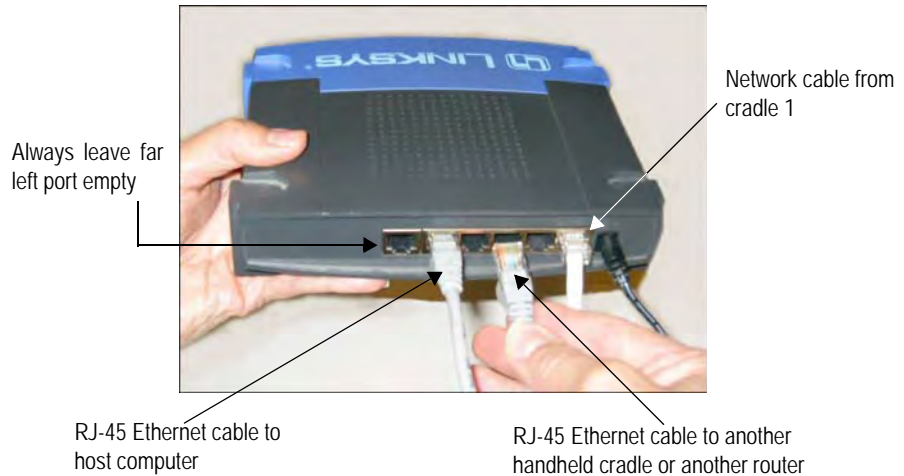

Figure 3.7 Connecting Multiple Handheld Cradles to Router
- 9 To connect additional cradles to a router, repeat steps 7 and 8, using the available ports on the router. See Figure 3.7.